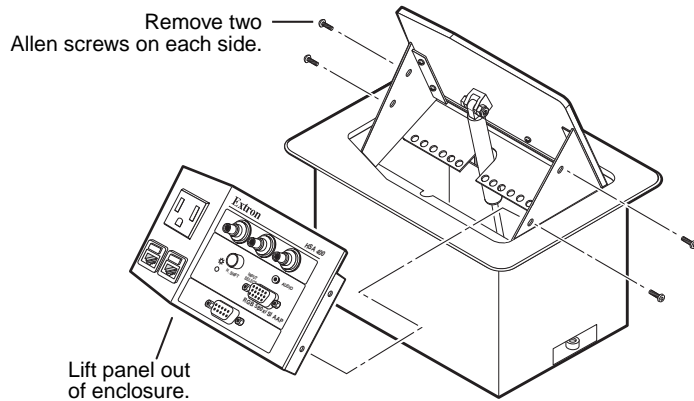

Figure 3-1 — Removing the front panel
2. Remove the four hex head screws on the right and left sides of the front panel (figure 3-1). Retain the screws. Lift the panel away from the enclosure.
1. Remove the four hex head screws on the right and left sides of the front panel (figure 3-1). Retain the screws. Lift the panel away from the enclosure.
4. On front panel, remove the four hex head screws on the right and left sides of the front panel (figure 3-1). Retain the screws. Lift the panel away from the enclosure as far as the connected cables allow.